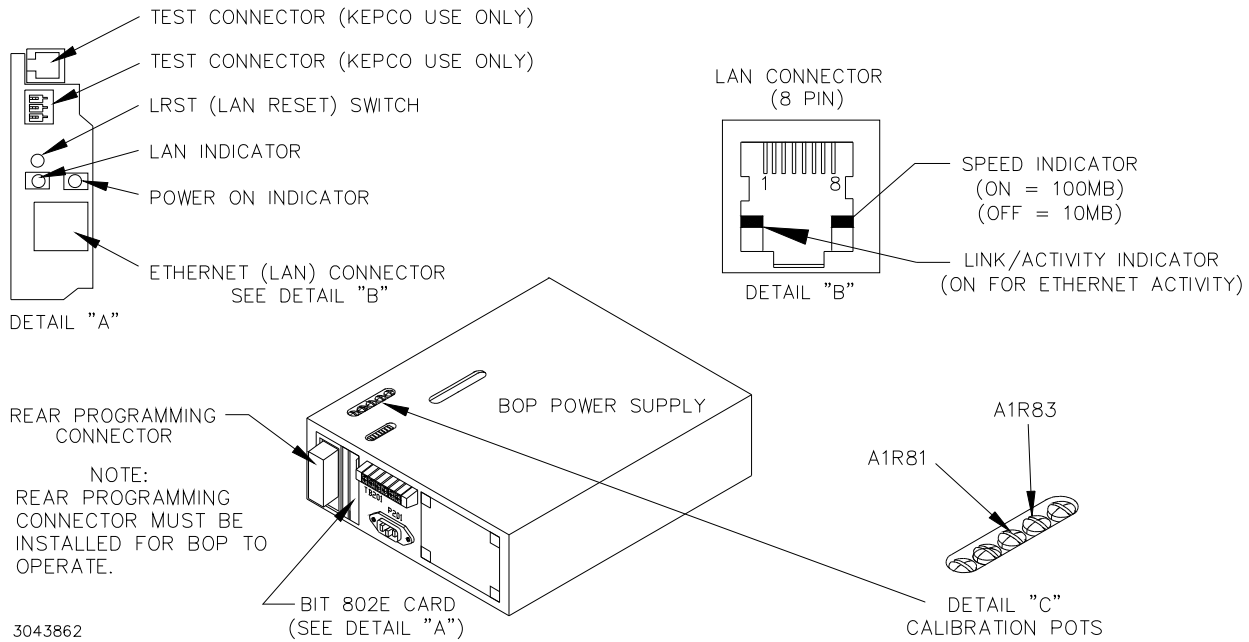

FIGURE 2-1. BIT 802E CARD, CONTROLS, INDICATORS, AND CONNECTORS
Figure 2-1 illustrates the location of controls, indicators and connectors of the BIT 802E Card.
NOTE: The Rear Programming Connector shown in Figure 2-1 is fully described in the BOP documentation, and MUST be installed for the unit to operate.
1. Connect the BIT 802E Interface Card to a Microsoft Windows-based computer via the LAN connector (see Figure 2-1). Use either a standard ethernet cable if using a router or hub, or a crossover LAN cable if connecting the BIT 802E directly to a computer. The BIT 802E is not Auto-MDI-X enabled and requires the crossover cable for direct connection.
2. Using a thin tool (e.g., the end of a paper clip), press then release the LAN Reset pushbutton switch on the BIT-802E (see Figure 2-1). The LAN indicator will blink briefly, then remain on.